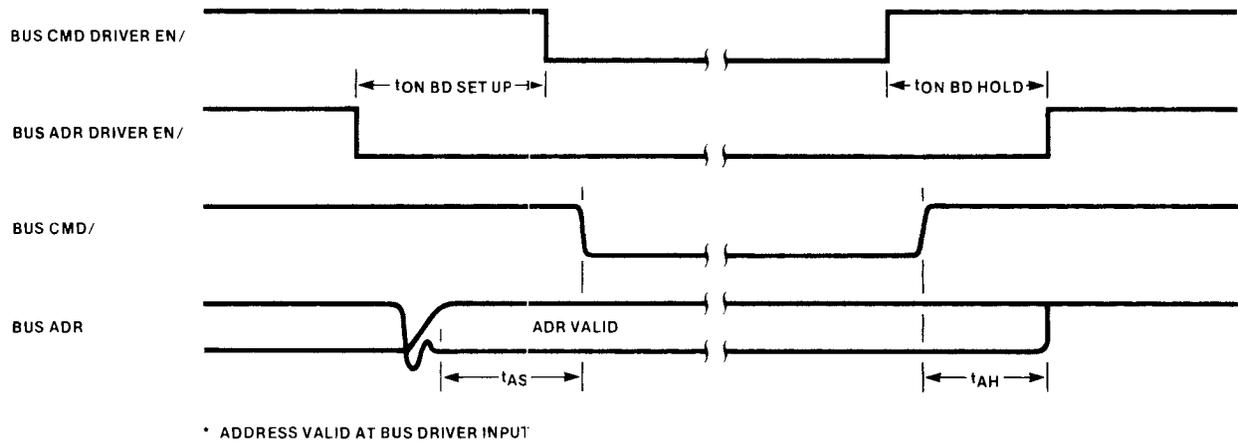

Figure 5-10. Address Timing
**5.1.2.3 Address Line Requirements.** The address drivers should be as close to the bus as possible to minimize capacitive coupling on the bus address lines. Figure 5-10 shows the AC parameters associated with the address lines. The most important parameters are set-up times and hold times. In order to guarantee the 50ns of MULTIBUS address set-up time (relative to command), the following set-up time must be provided on the master.